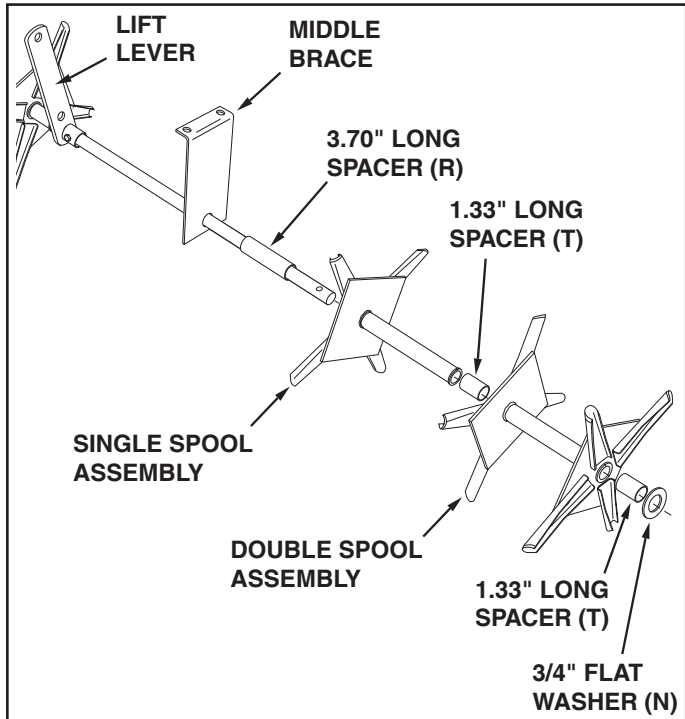

FIGURE 4 REAR VIEW
4. Assemble the middle brace onto the **long end** of the shaft with the bent end of the brace facing the lift lever. Next assemble a 3.70" long spacer (R), a single spool assembly, a 1.33" long spacer (T), a double spool assembly, a 1.33" long spacer (T) and a 3/4" flat washer (N) onto the **long end** of the shaft. See figure 4.